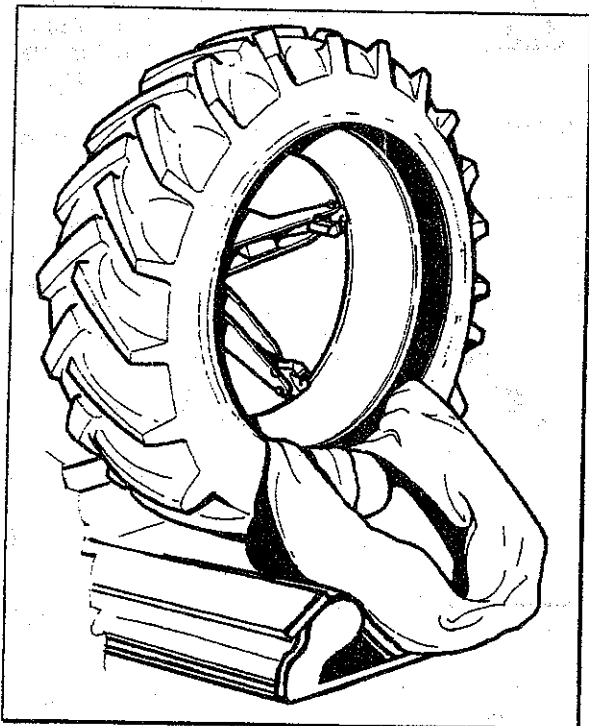

Fig.49
9. Lift the toolholder arm to the rest position. Shift the tire from the rim, moving the chuck arm towards the inside; this will make it much easier to extract the tube (Fig.49).